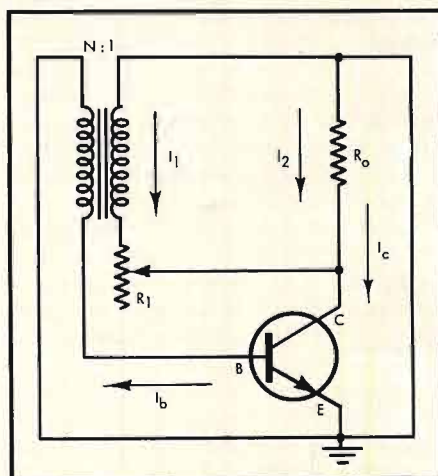

Fig. 1. Simplified schematic of basic arrangement for testing transistors.
Basically, the circuit¹ is that of an oscillator. The point at which oscillation starts is determined by the β of the transistor and by a potentiometer R_i in Fig. 1. The frequency of oscillation which lies in the audio range, depends mostly on the transformer characteristics.
To understand the operation of the circuit, let us examine the conditions which prevail when the circuit just begins to oscillate: (see Fig. 1)
Let us investigate the circuit further to see what other useful relationships we can determine, and how we can make a linear, direct-reading, dial scale. Suppose we make the resistor R_i a 10-turn potentiometer, and we use a 15-turn dial such as a Beckman type "RB" (or other similar device) to read out our β values directly. This dial has 100 major divisions per turn, and a total of 15 turns or 1500 divisions. If we determine the minimum β value we wish to read, we automatically set the maximum value of β we can read on one range. This is true since our resistor R_i in Fig. 1 goes from a minimum value of zero ohms to its maximum value when rotated the full 10-turns, and β varies with R_i according to Eq. (1).